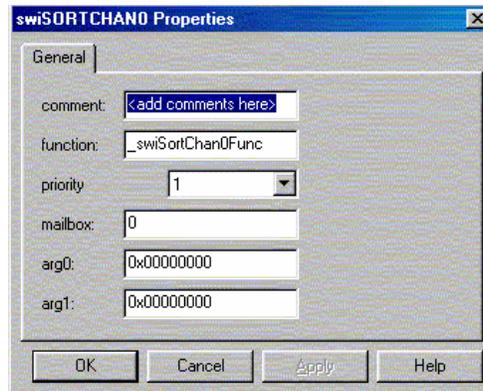

Figure 29. SWI SORTCHAN0 Setup
2. Right Click on *swiSORTCHAN0* and select properties. Change the function property to *_swiSortChan0Func* as shown in Figure 29. Repeat this step for the remaining 7 SWI objects. Change their function property to call the function, which sorts for its respective channel.